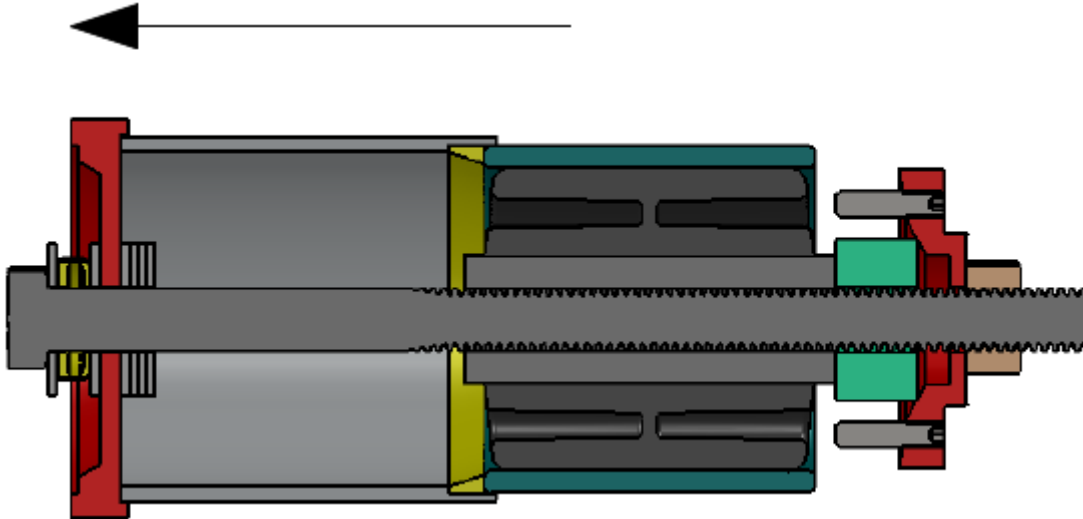

Fig. 2
3. Assemble the thrust bearing, washers, sleeve and spacer and screw the drive screw in to the drive plate as shown in Fig. 2.